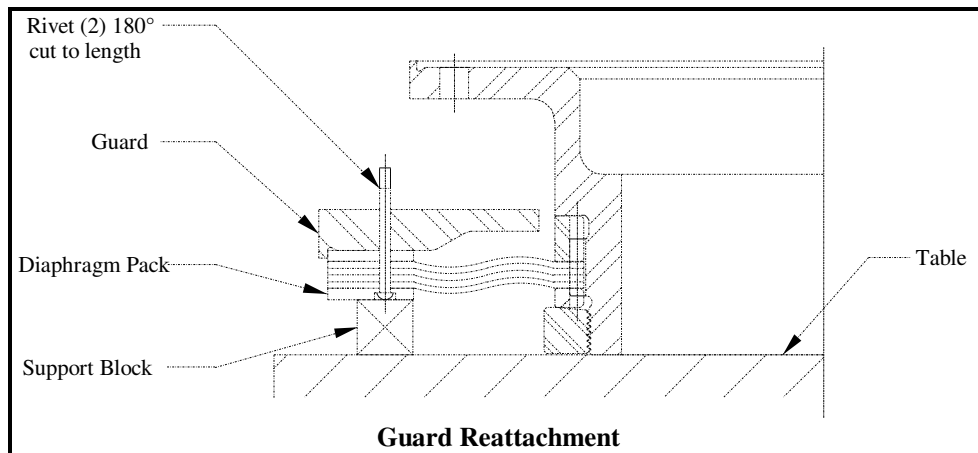

Figure 4-13
- 4.7.1.9 If the inspection performed in Paragraph 4.7.1.8 does not identify a problem and the diaphragm pack sub-assembly is to be returned to service, re-attach the guard to the diaphragm pack using two (2) new rivets. The rivet should extend above the guard approximately 3/16-1/4 in. to allow for peening. Proper support must be provided for the diaphragm pack during riveting to avoid possible damage (see Figure 4-13). The rivet head must not protrude beyond the face of the diaphragm pack.